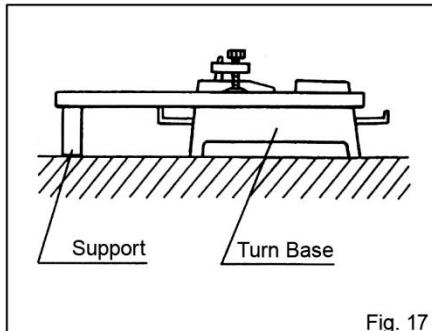

Fig. 17
- When cutting long workpieces, use supports that are as high as the top surface level of the turn base. Do not rely solely on the vertical vise to secure the workpiece. (Fig. 17)